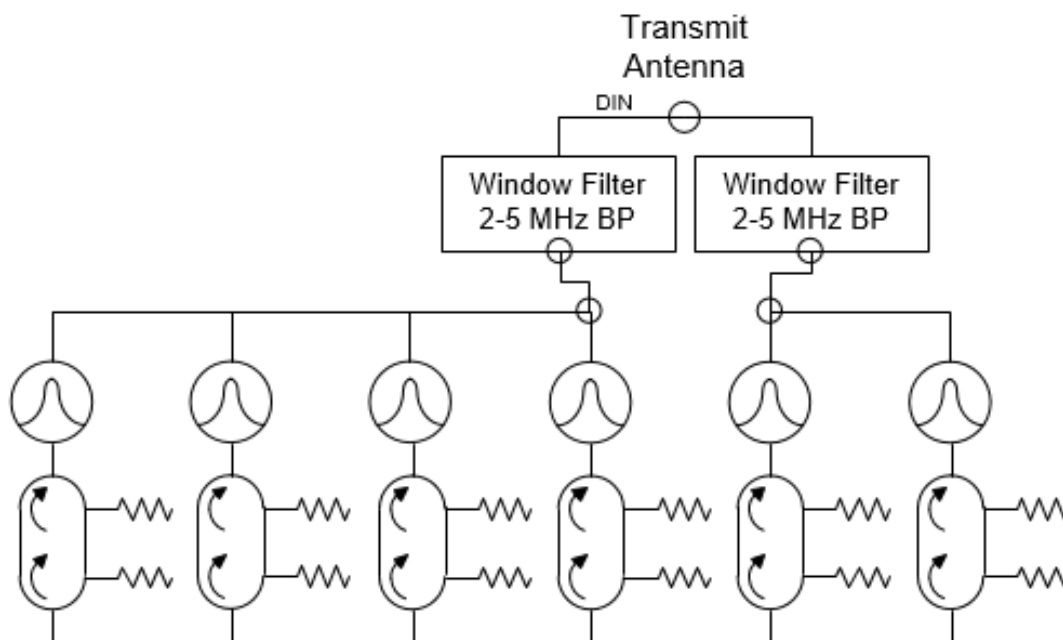
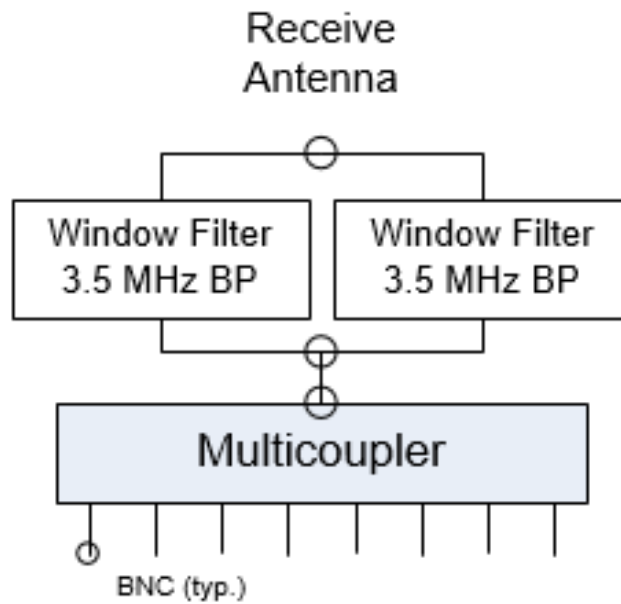

Figure 9: Guard band/ Bandpass definition
Figure 11: Receive distribution system
- Electrical Design** - *Figure 9* shows the transmit combiner and receive filter design requirement for the frequency plan in Figure 7. This design requires two window filters for both the transmitter combiner and receive window filter. *Figure 10* shows the design rules of the transmit network. *Figure 11* shows the receive system and the dual receive filter required.